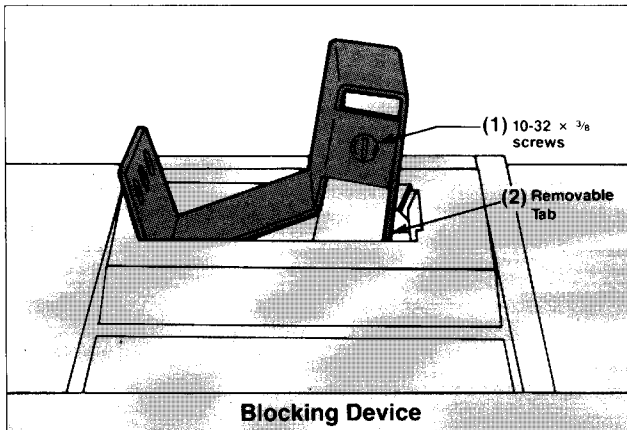

Figure 1
- C. Loosen the two screws (1) (#10-32 \times $\frac{3}{8}$ in.) so that the blocking device can be positioned and fully seated over the toggle handle, as shown in Figure 1.
The lip of the blocking device (2) (Figure 1) is undercut so that a short section can be removed. To modify the device for blocking a handle ON, snap off this removable tab and discard.